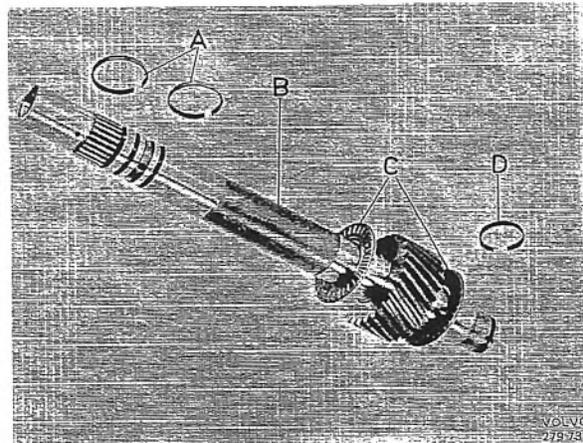

Fig. 4-101. Forward sun gear components
14. Place the front needle thrust bearing on the rear sun gear shaft. Fit the shaft in the rear clutch assembly. Install the oil sealing rings, see Fig. 4-101.